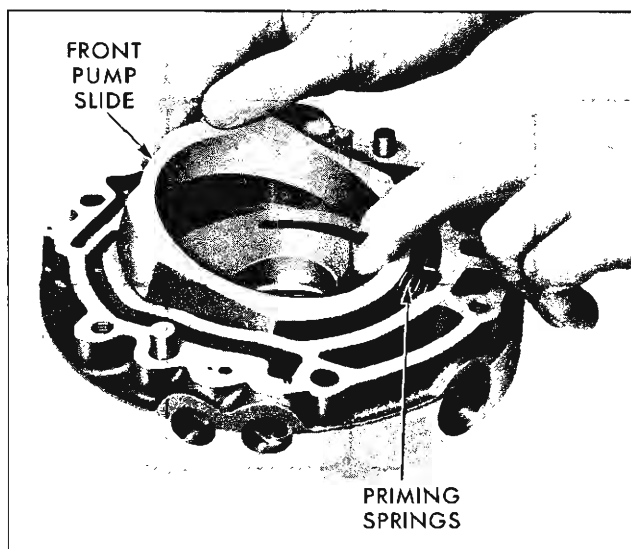

Fig. 7D-103 Removing Pump Slide
3. Using needle nose pliers, remove pin which holds torus feed valve retainer (place finger against retainer to prevent it from flying out). Remove retainer, spring and torus feed valve (Fig. 7D-101). **NOTE:** If valve tends to stick, it may be removed after slide is removed.